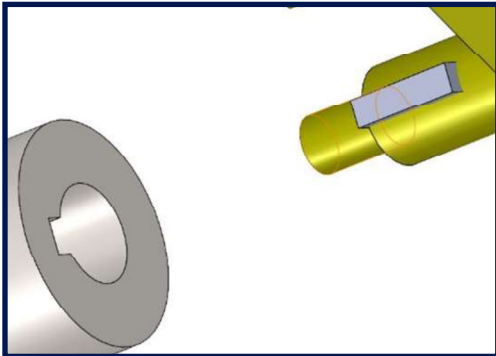
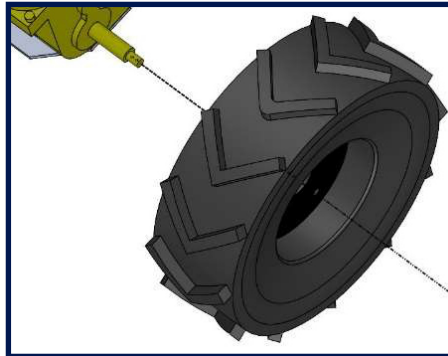

Figure 4A
Figure 4B
4. Align the key slot on the hub with the key stock on the motor shaft. Slide components together and secure with the provided M10 nut. See **Figure 4A**, **Figure 4B**, and **Figure 4C**.